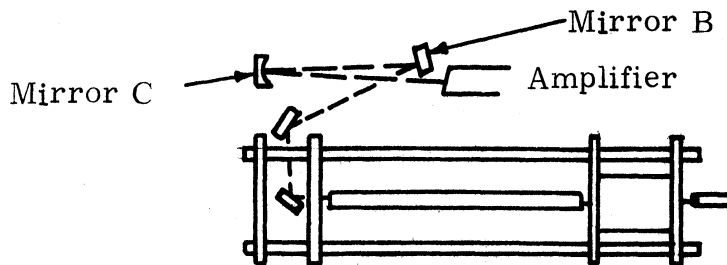

Figure 5. Mirror Geometry
7. Remove power meter and adjust mirror A and B so that the beam hits the center of the spherical mirror C. To check this place the aluminum mirror cover with the needle in the center (should now be beside the mount in the box) (see figure 5).